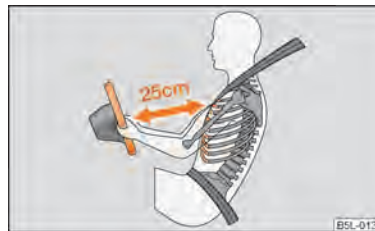

Fig. 123 Safe distance to steering wheel
- For the driver and front passenger it is important to maintain a distance of at least 25 cm from the steering wheel or dash panel ⇒ fig. 123. Not maintaining this minimum distance will mean that the airbag system will not be able to properly protect you - hazard! The front seats and the head restraints must always also be correctly adjusted to match the body size of the occupant.